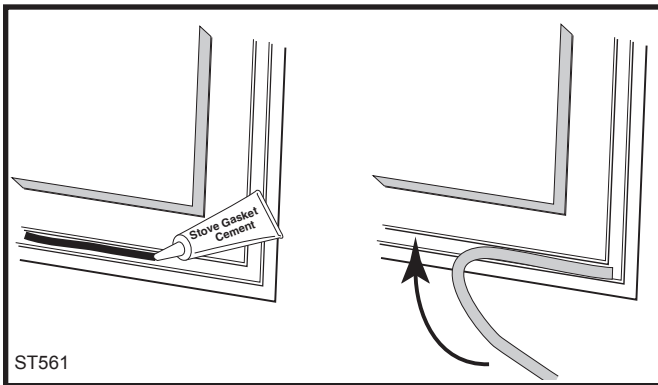

Fig. 33 Lay a bead of gasket cement then press gasket in place.
3. Determine the correct length of the appropriate-sized gasket by laying it out in the channel. Allow an extra 25-51 mm (1-2"), and mark the spot to be cut. (Fig. 33)
6. Starting at one end, press the gasket into the channel. (Fig. 33) Ensure a good joint where the gasket meets before trimming any excess. Do not overlap the gasket ends or leave ends with ragged edges.